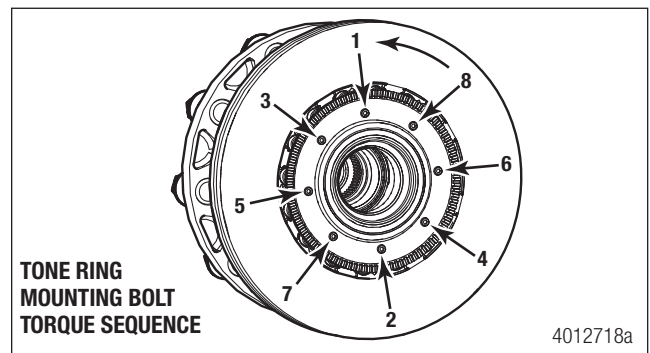

Figure 13.12
5. After the end of the tightening sequence, go back to the first bolt and check/re-tighten as needed. Figure 13.12.